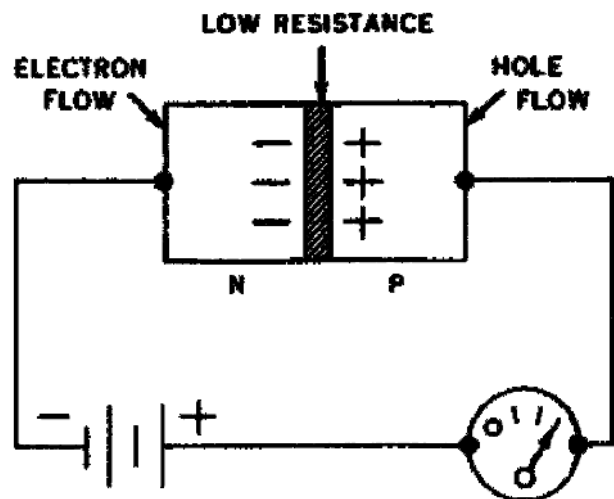

Figure 110. P-N junction with forward bias.
14. **Forward Bias.** The battery can be connected with the opposite polarity and cause a different condition. In figure 110 the battery has been reversed, and now the negative electrode of the battery is connected to the N-type material. This negative voltage will repel the electrons in the N-type material toward the junction. The positive electrode is connected to the P-type material which will repel the positive holes toward the junction. With this connection, recombination takes place at the